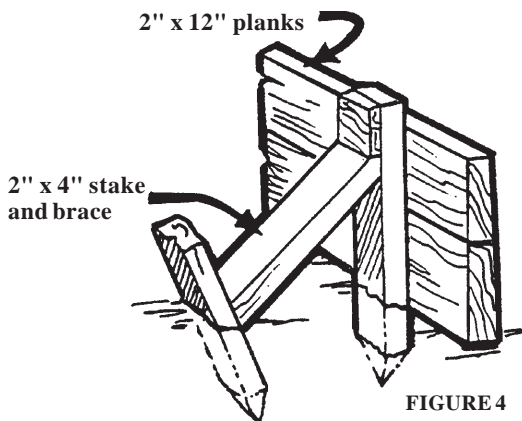

FIGURE 4
2. Using planks: nail 2" x 12" planks to 2" x 4" wood stake. Angle brace as shown in Figure 4 and secure with small 2" x 4" piece above brace and nail to stake. Angle an additional stake to brace and nail to provide adequate support (Figure 4).